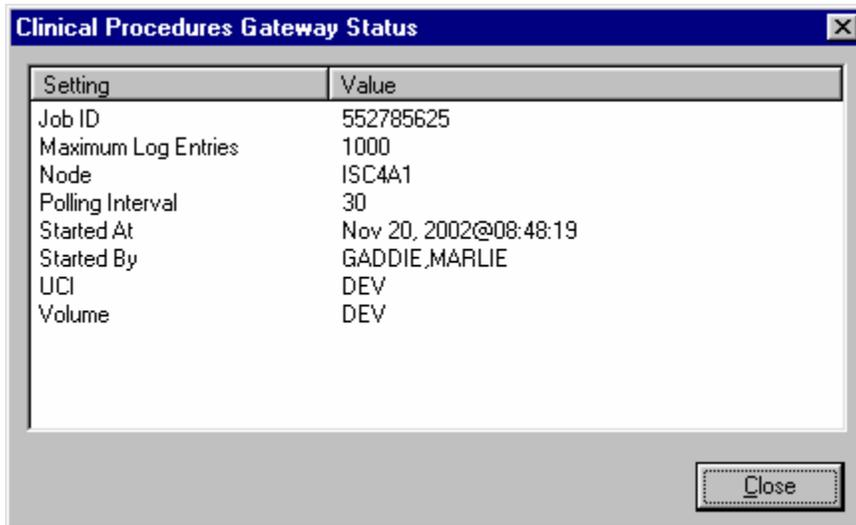

Fig. 9-3
- Choose **File > Status**. The server settings are displayed, Figure 9-3.